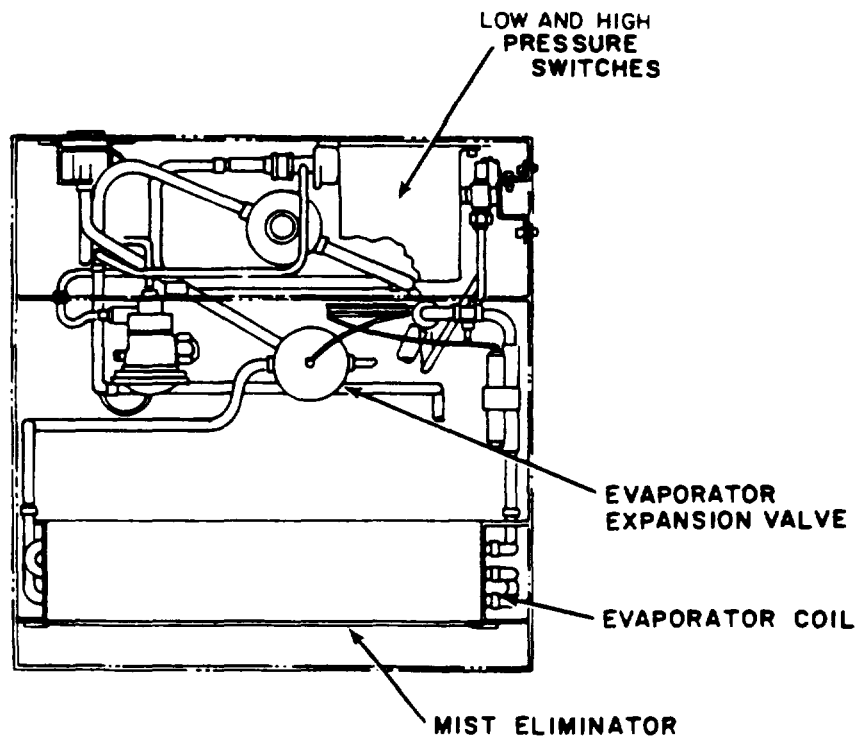

Figure 1-3. Air Conditioner, Evaporator Section.
b. EVAPORATOR AREA: See Figures 1-3 and 1-4.